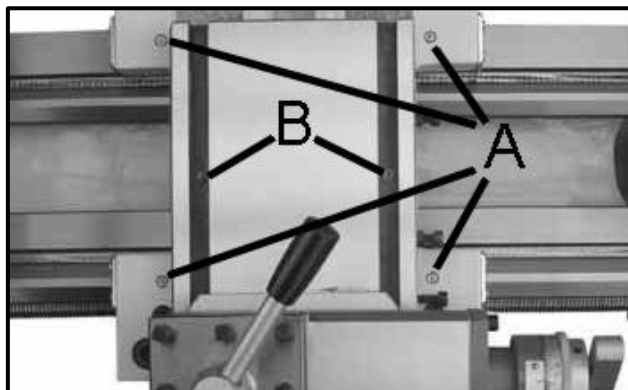

Figure-44 Carriage and cross slide oil fill ports
Lubricate two oil ports (B) shown in figure-44 with 20W machine oil.